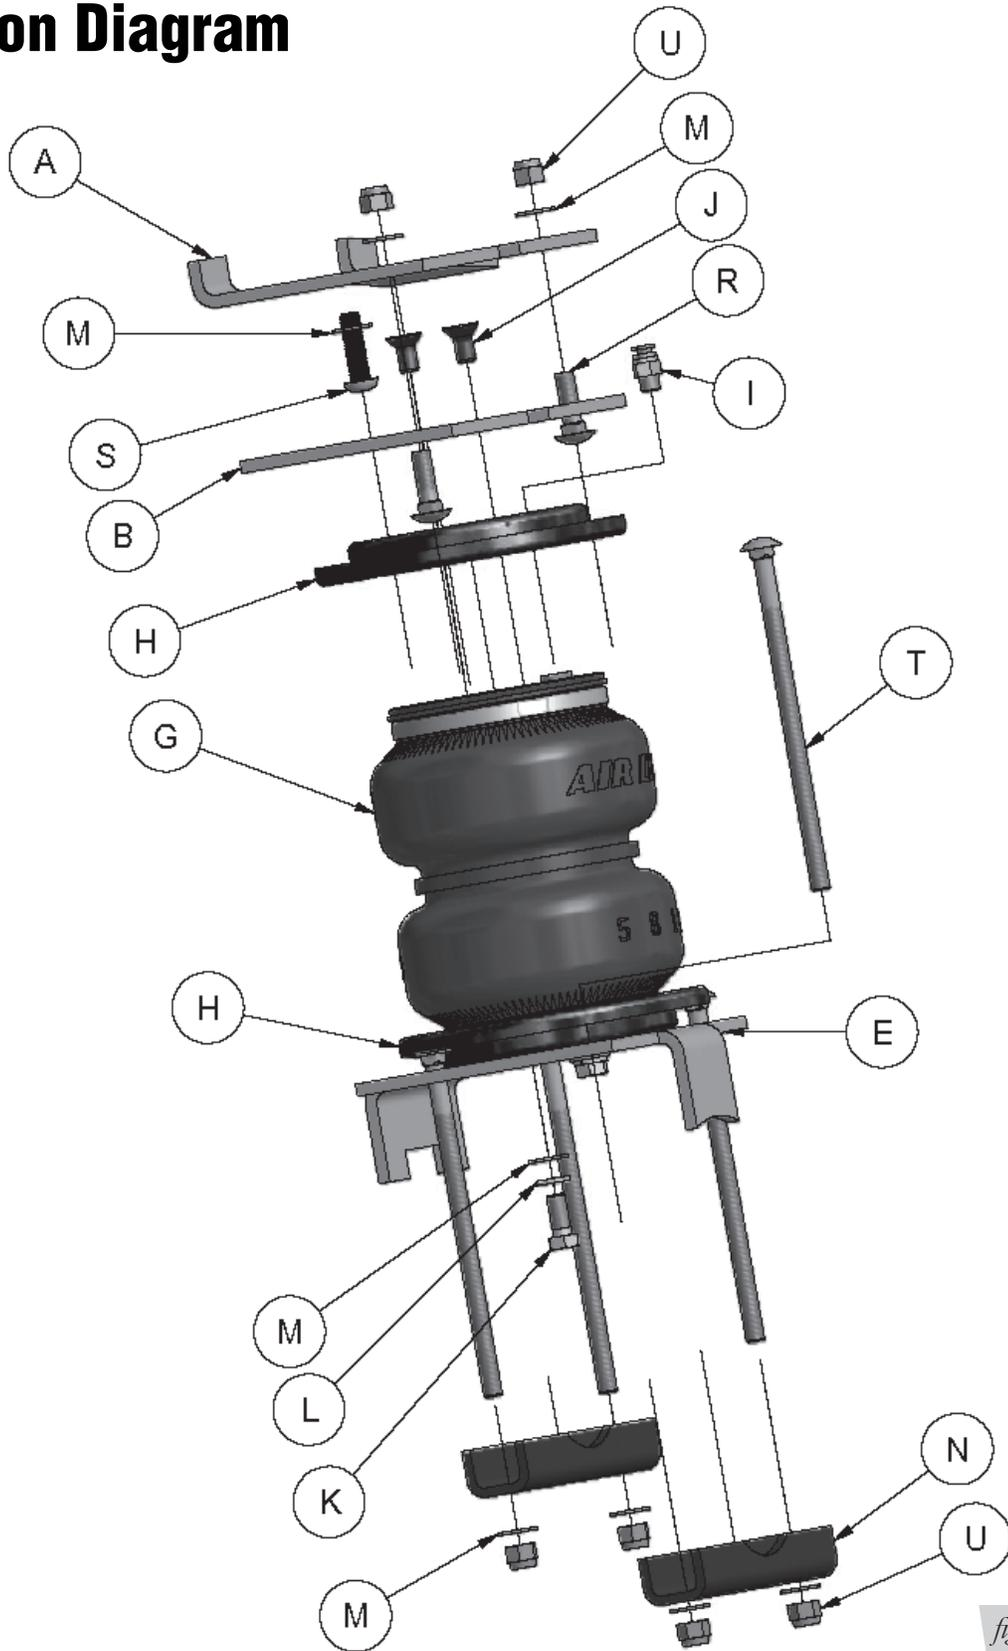

fig. 1a
1. Set a roll plate (H) over the top of the bellows (G) (Fig. 1a-1b).